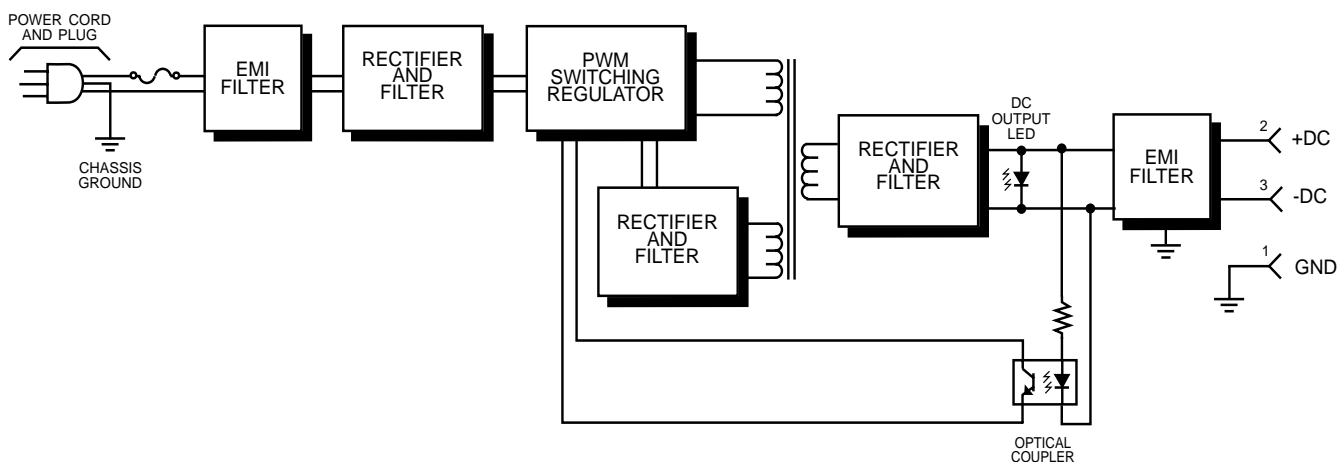

Figure 4 Model 723 Power Supply block diagram.
**5.1 GENERAL** The circuit description is intended to familiarize you with the Model 723 for engineering and applications use. Repairs to the unit should not be attempted as they will expose you to dangerous voltage levels. Please refer to the block diagram, Figure 4 (on page 4), when reading this technical description.